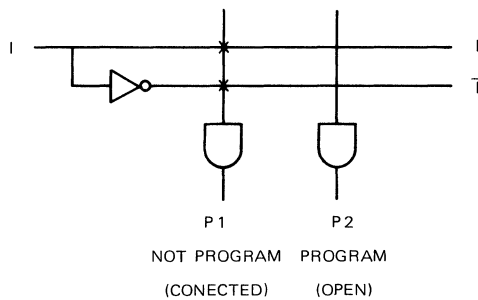

Figure 1
As shown in figure 1, AND output (P1) becomes inactive if neither positive input (I) nor negative input (\bar{I}) is written, and AND output (P2) becomes logically Don't Care if both positive input (I) and negative input (\bar{I}) are written.